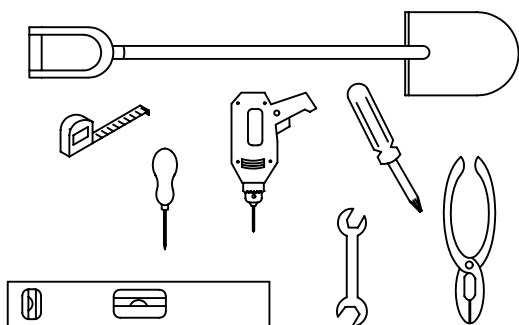

FIG. 1
1. **WEATHER WARNING ! DO NOT ERECT YOUR BUILDING ON A WINDY DAY. ANY BUILDING LEFT PARTIALLY CONSTRUCTED MAY BE SERIOUSLY DAMAGED (FIG.1).**
3. **ALL ASSEMBLY OPERATIONS MUST TAKE PLACE ON A COMPLETELY LEVEL SURFACE (FIG. 1)**
UN ABRI PARTIELLEMENT MONTÉ, LES PIÈCES POUVANT ÊTRE ENDOMMAGÉES (FIG. 1).
3. TOUTES LES OPÉRATIONS DE MONTAGE DOIVENT ÊTRE RÉALISÉES SUR UNE SURFACE PLANE(FIG 1).